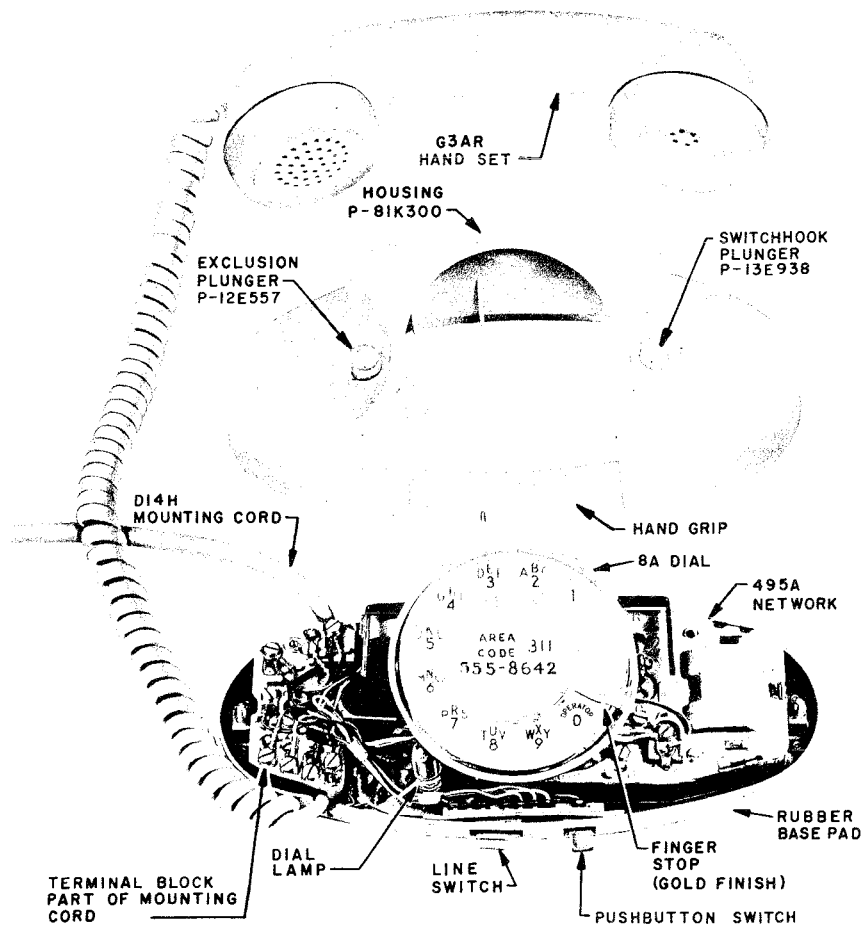

Fig. 6 — 711B Telephone Set with Housing Removed
2.16 The 711B telephone set (Fig. 6) is not equipped with an internal ringer. When a ringer is required, an E1-type external ringer may be used.